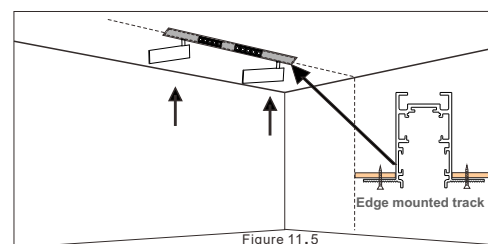

Figure 11.5
5. Put the magnetic absorption lamp into the magnetic absorption track, turn on the switch to test, the lamp can be normally energized and lit, and the track installation is completed. (See Figure 11.5)